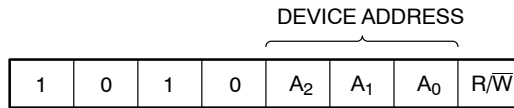

Figure 3. Slave Address Bits
The Master initiates data transfer by creating a START condition on the bus. The Master then broadcasts an 8-bit serial Slave address. The first 4 bits of the Slave address are set to 1010, for normal Read/Write operations (Figure 3). The next 3 bits, A2, A1 and A0, select one of 8 possible Slave devices and must match the state of the external address pins. The last bit, R/ $\overline{W}$ , specifies whether a Read (1) or Write (0) operation is to be performed.